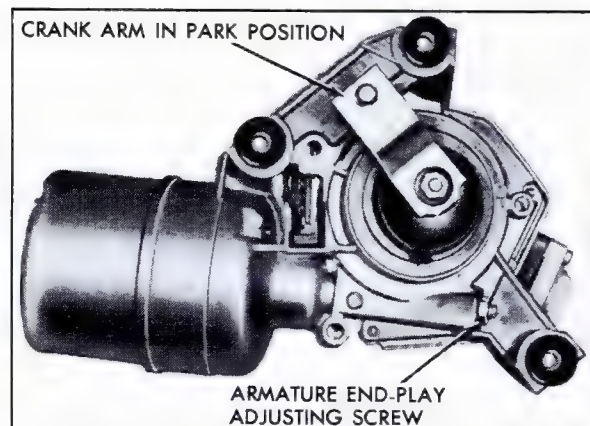

Fig. 12-18 Crank Arm in Park Position
1. Install wiper and washer assembly on cowl and secure with three attaching screws. Be sure wiper unit crank arm is in PARK position, Fig. 12-18.
11. Install crank arm on drive plate and shaft assembly as shown in Fig. 12-18 and secure with attaching locknut. Tighten locknut to 60 inch pounds.